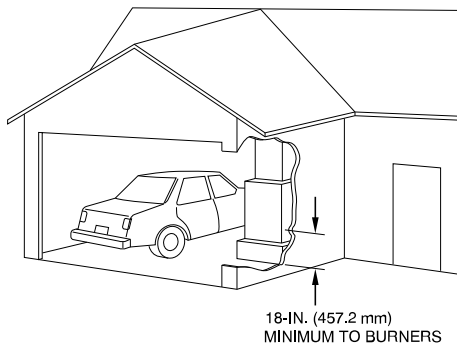

Fig. 6 – Installation in a Garage
8. A gas-fired furnace for installation in a residential garage must be installed as specified in the warning box in \(LOCATION on p5\). See Fig. 6.
When the furnace is installed in a residential garage, the burners and ignition sources must be located at least 18 inches above the floor, see Fig. 6. The furnace must be located or protected to avoid damage by vehicles. When the furnace is installed in a public garage, airplane hangar, or other building having a hazardous atmosphere, the furnace must be installed in accordance with the NFGC.